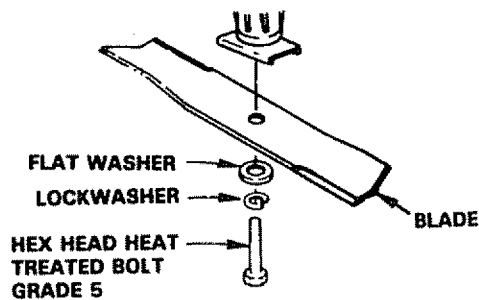

FIGURE 47
- Remove the hex head bolt, lockwasher and flat washer (Fig. 47).